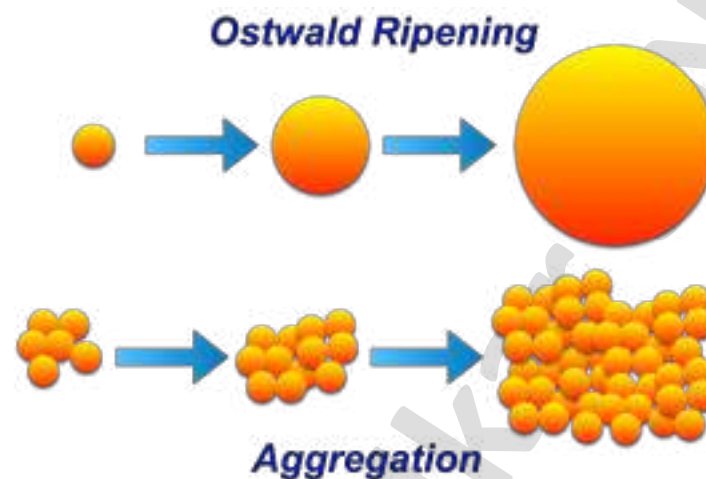

Fig. 30: Schematic of Ostwald ripening and aggregation nanoparticles
- In Ostwald ripening, the particle size increases whereas in aggregation, particles come together without increase in the individual particle size as shown in Fig. 30.